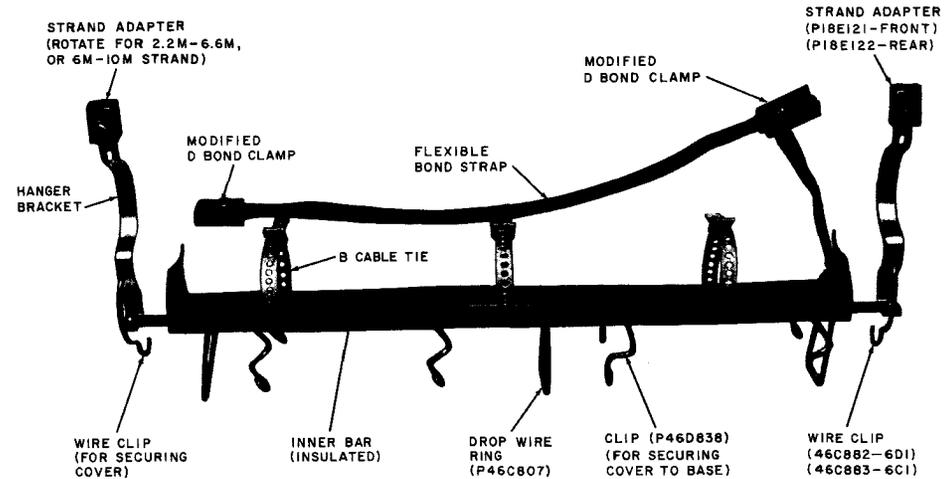

Fig. 1—6-Type Cable Closure Base Assembly
2.01 Figure 1 shows a 6-type closure base assembly equipped with the flexible bond strap. This flexible bond strap arrangement allows up to three inches of sheath travel on each end before any strain is applied to the bond clamps which can